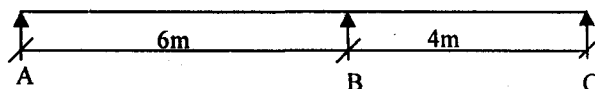

Fig. Q.7
Q.7) For the two span continuous beam shown in Fig. Q.7, draw the influence line diagram for the B.M. at the midpoint of span BC. Determine the influence line coordinates at 2m intervals and plot them. $EI = \text{constant}$.